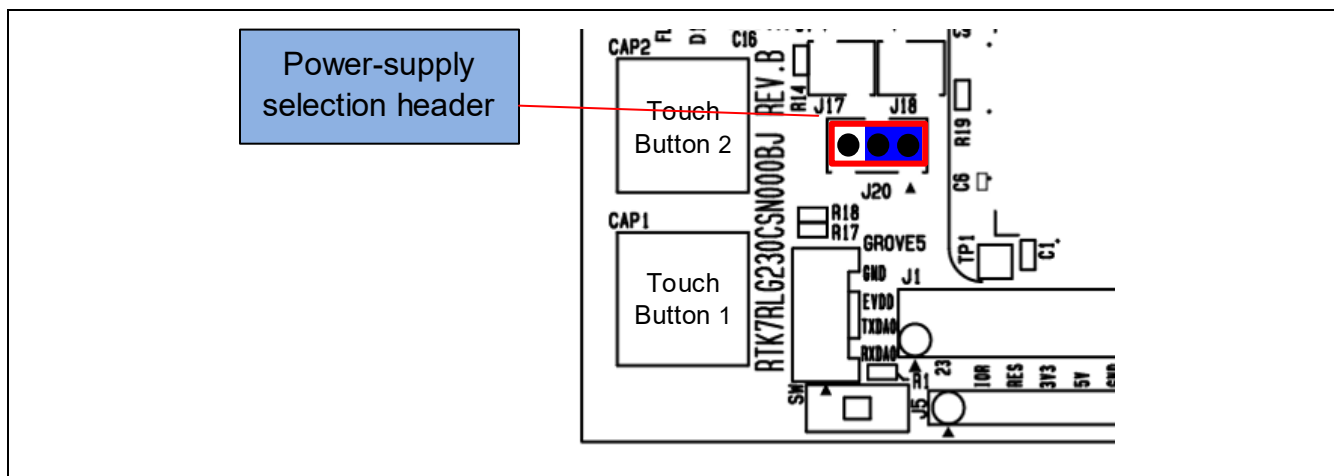

Figure 5-5 Setting of the Header to Select a 5-V Power Supply (Top Side)
- 1-2 of J20 being short-circuit selects a 5-V power supply. This is the default setting as shipped (Figure 5-5).